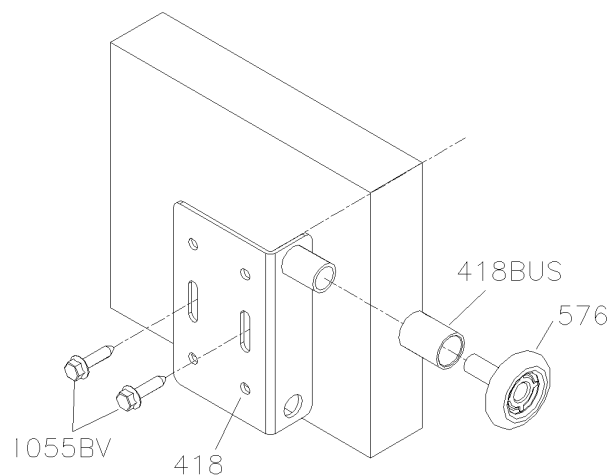

Figure 19
- 22** Slide the plastic bush (418BUS) over the bush of the top roller holder (418/-W). Then slide the shaft of the bearing roller (576) into the bush of the top roller holder (Figure 19).